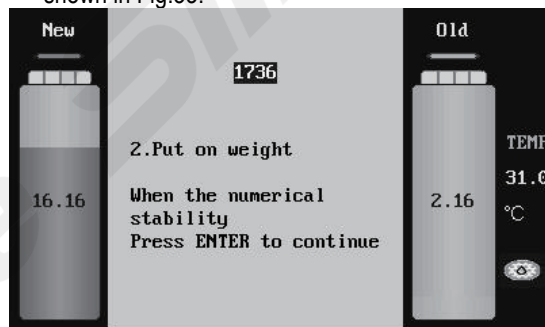

Fig.33
- 4) Remove the new fluid tank. When the value displayed on the interface is stable, please press ENTER key to save the data. The interface is as shown in Fig.33.